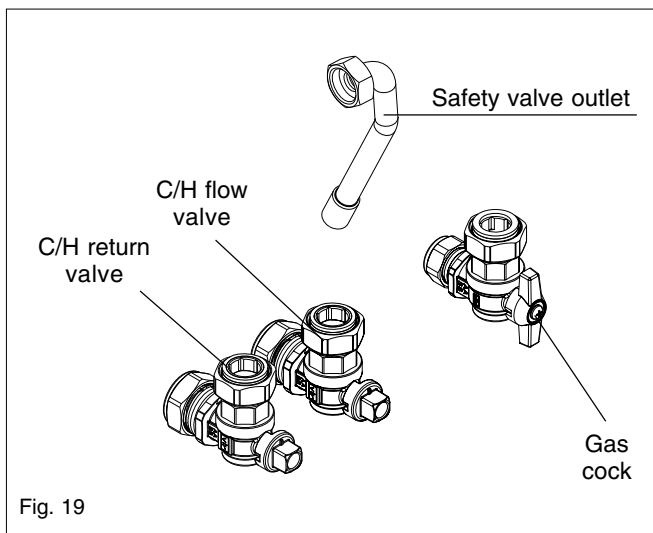

Fig. 19
4.6.1 GAS (fig. 19)
4.6.2 FLOW & RETURN (fig. 19)
4.6.3 COLD WATER INLET (fig. 19)
4.6.4 HOT WATER OUTLET (fig. 19)
4.6.5 SAFETY VALVE (fig. 19)